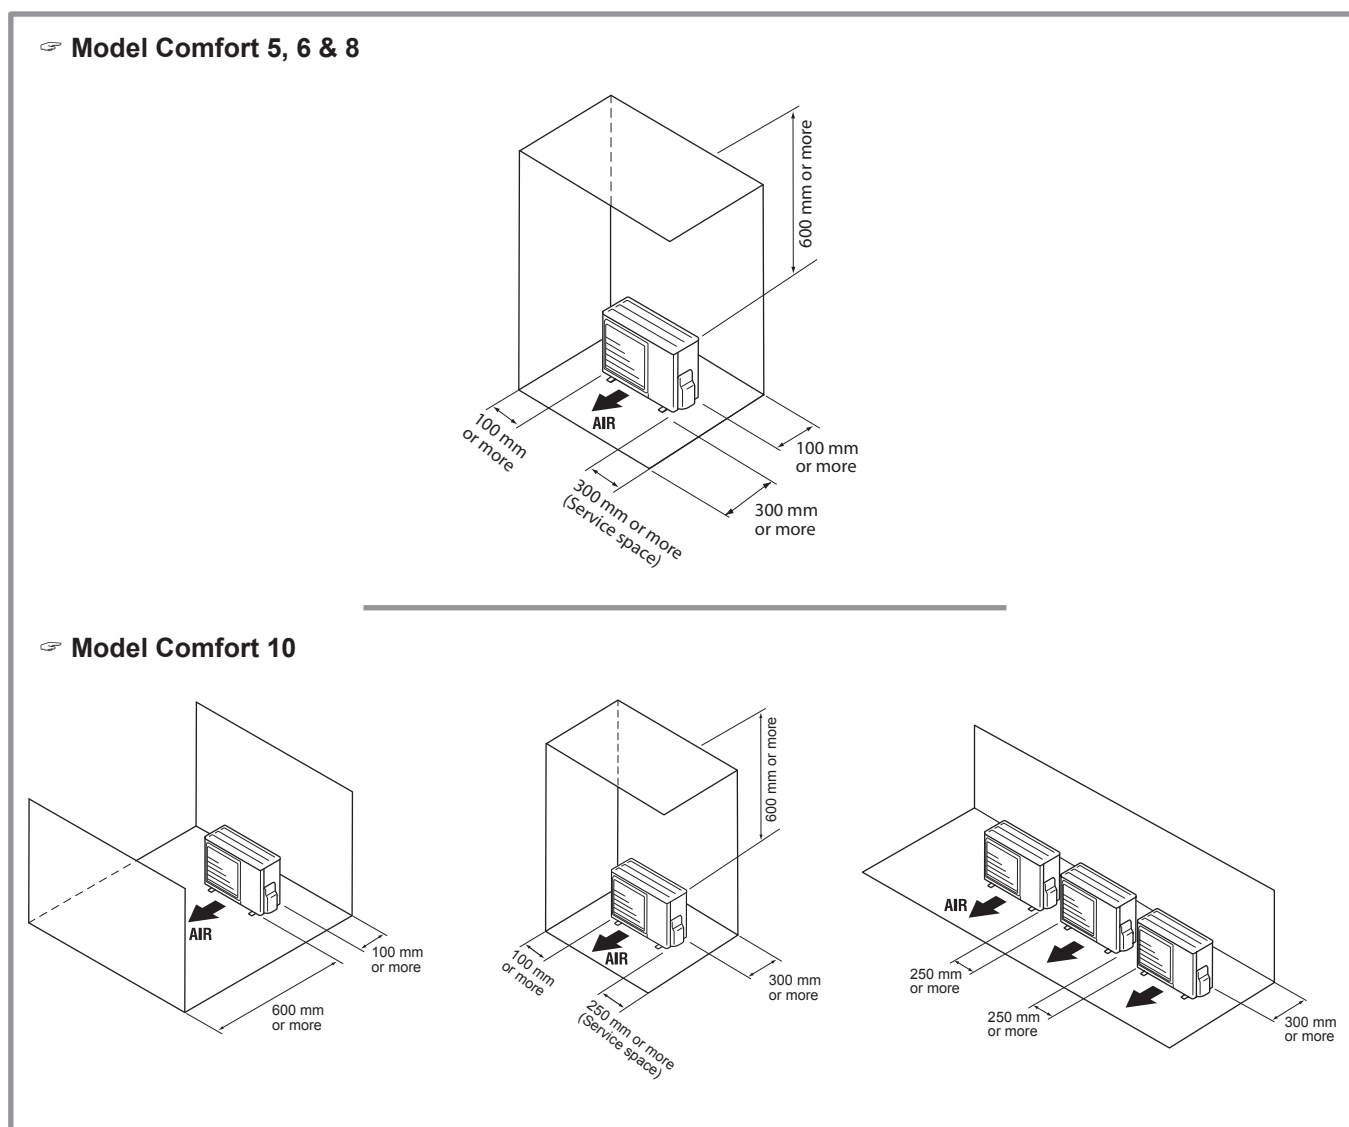

figure 12 - Minimum installation clearances around outdoor unit (all models)
- ☞ **The outdoor unit must only be installed outdoor (outdoors). If a shelter is required, it must have broad openings on the 4 walls and observe the installation clearances (figure 12).**
- The unit must be easily accessible for future installation and maintenance work (figure 12).
- Nothing should obstruct the air circulation through the evaporator and from the fan (figure 12).